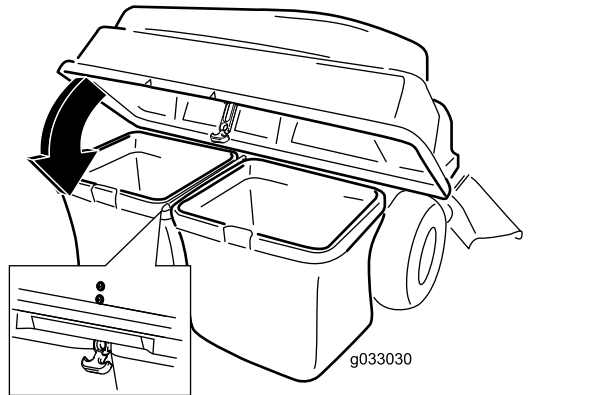

Figure 17
- Lower the bagger top onto the bags (Figure 17).